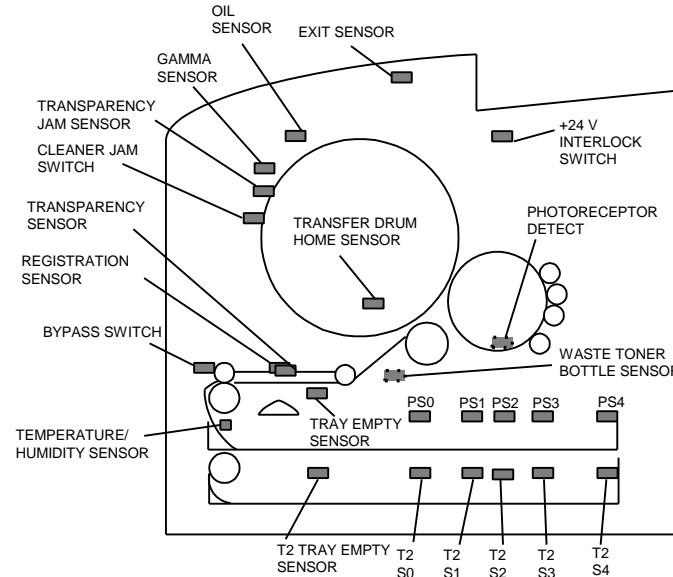

Figure 6-1. Input Component Location
4. Operate the component (Figure 6-1). The appropriate LED (K, C, M, Y) should switch on and off.